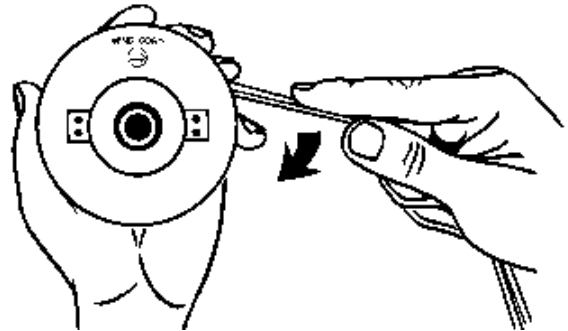

Fig. 16
5. Wind the trimming line clockwise (Fig. 16). Keep tension on the line, and make sure each half of line is separated by the spool divider. Continue winding until the line is within 6 inches (15 cm) of the ends.